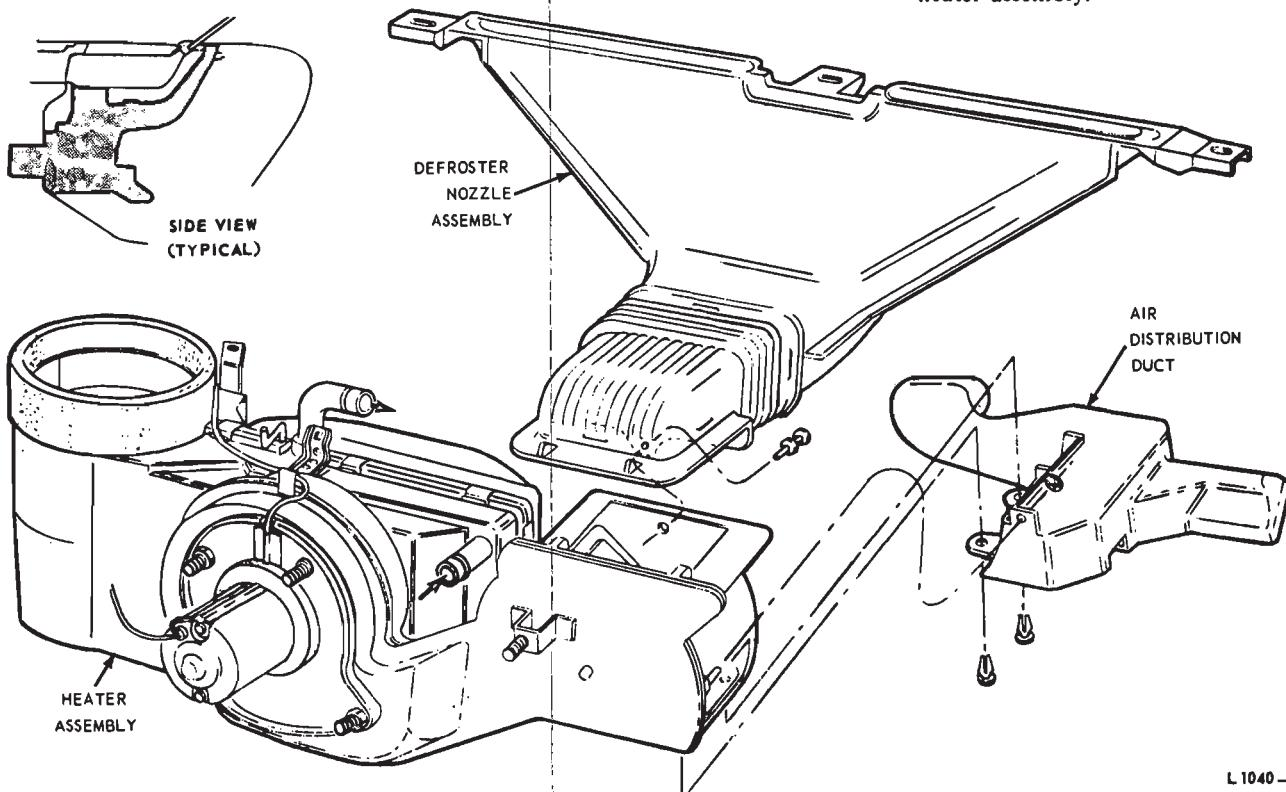

FIG. 37—Fresh Air Heater Disassembled
1. Remove the snap rivet retaining the defroster nozzle to the heater plenum (Fig. 37).
5. Remove the air distribution duct from the heater (Figs. 37 and 38).
9. Remove the heater support to dash panel attaching screw (Figs. 37 and 38).
10. Install the air distribution duct (Figs. 37 and 38).